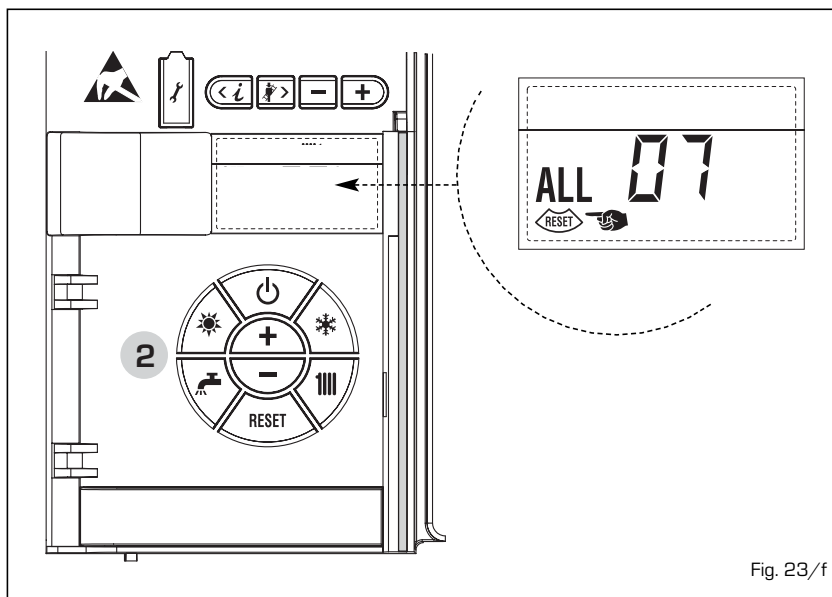

Fig. 23/f
– **ANOMALIA FIAMMA PARASSITA “ALL 08” (fig. 23/g)**